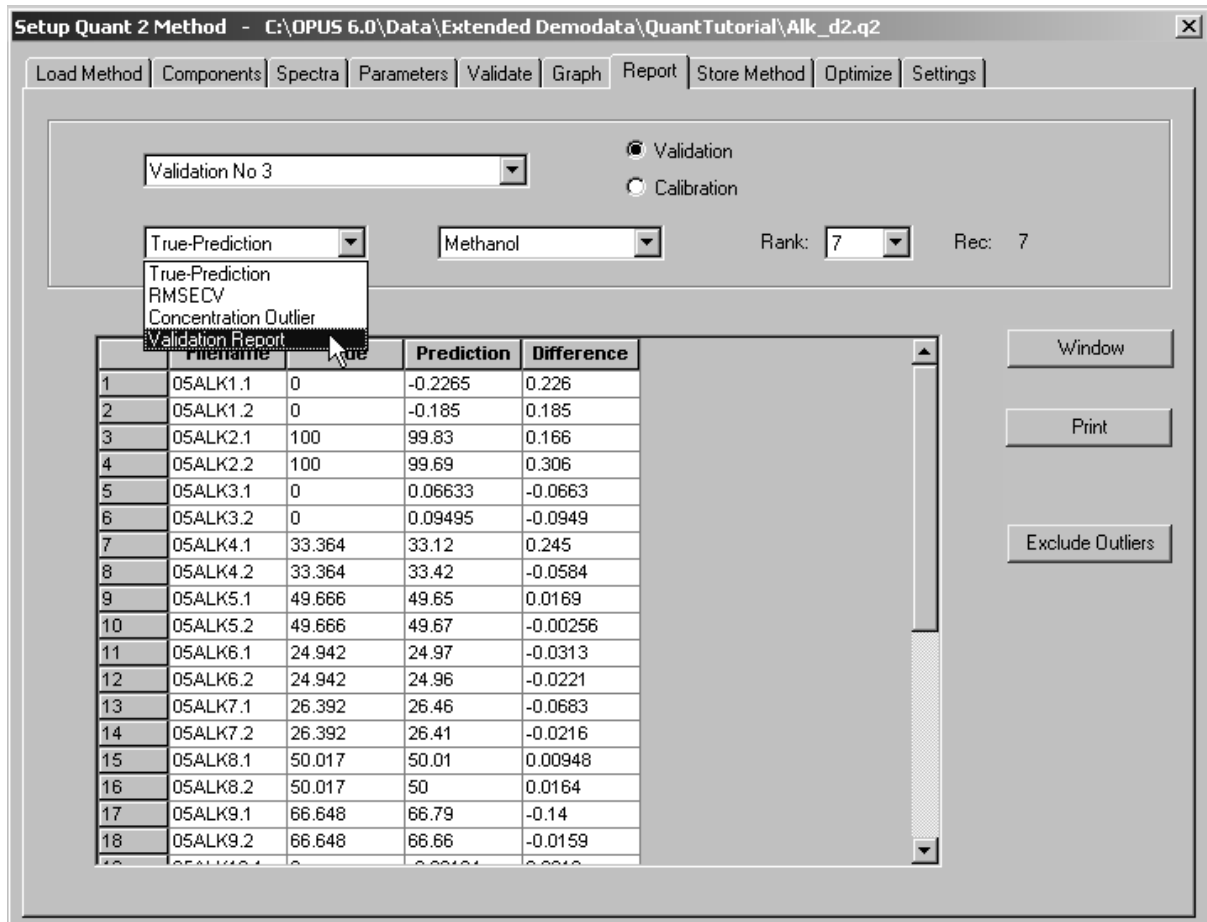
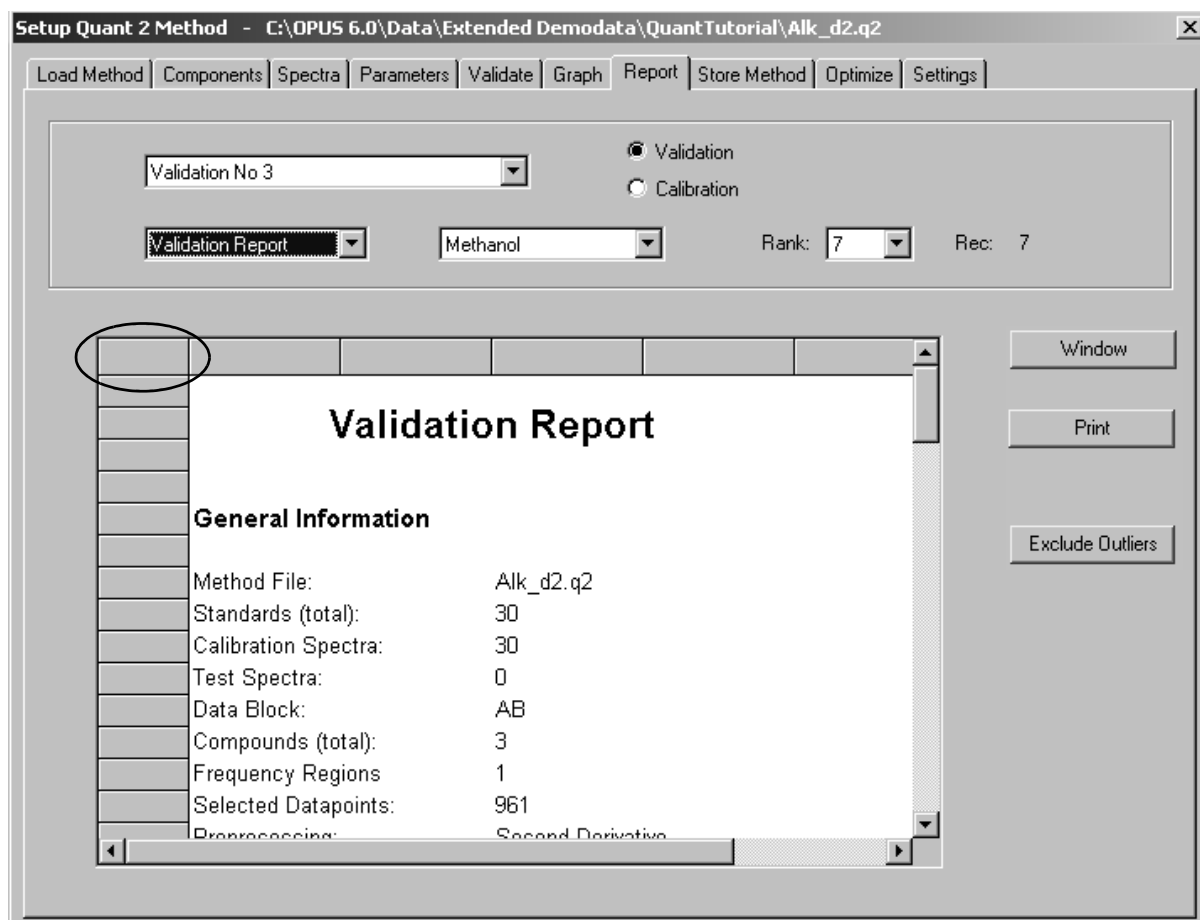

Figure 32: Setup Quant 2 Method – Switching to the Validation Report View
Figure 33: Setup Quant 2 Method – Validation Report View
- Now select *Validation Report* from the drop-down list (figure 32). The view changes; instead of the table, a print-ready validation report is displayed. (See figure 33.)
If you want to copy the whole report to the clipboard, mark the report by clicking on the upper left tile in the validation report (see figure 33) and press *Ctrl + C* on the keyboard. Then, you can paste the content of the clipboard into any other application (e.g. Microsoft Word).